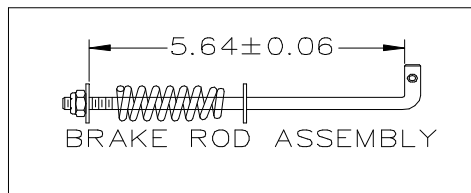

Figure 7. Brake Pull Rod Assembly Adjustment
4. Install at upper bolt spacer (130), washer (139), lock washer (126), and nut (127).
5. Install at lower bolt lock washer (126), and nut (127) to secure the brake yoke assembly.
6. Install brake anti-drag compression spring (151), and two brake pins (125).
7. Install brake arm (124) onto brake yoke assembly.
8. Install washer (77), and castle nut (128).
9. Insert a (0.015") feeler gage between brake disc (85) and top brake puck (120). Adjust the brake by turning castle nut (128) until it is snug but not tight against the feeler gage. (The brake gap must be adjusted to a (0.015") clearance.
10. Install cotter pin (129) to secure castle nut (128).
11. Install brake arm bias spring (141) to brake arm (124) and top brake arm bolt.
12. Install brake pull rod (152) into brake arm (124) and actuating arm (35).
13. Secure brake rod (152) to actuating arm (35) by installing washer (77) and cotter pin (129).
14. Secure brake pull rod (152) to brake arm by installing washer (77), brake spring (134), washer (77), and lock nut (95). Set to the dimension shown in Figure 7.